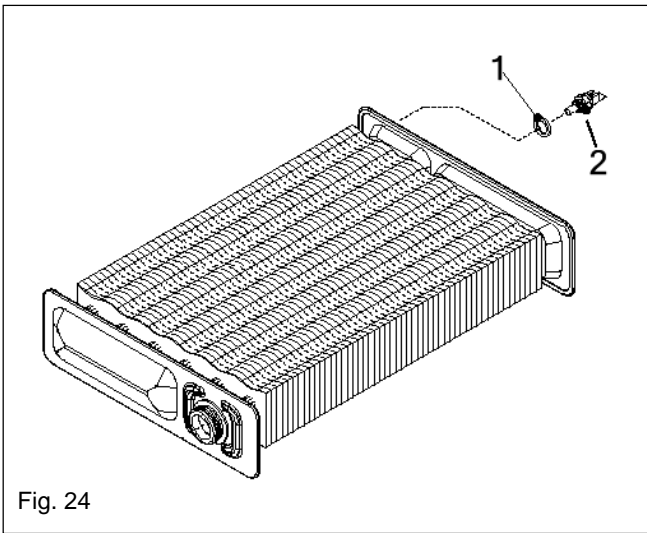

Fig. 24
**6.10 PRIMARY THERMISTOR (see fig. 24)**